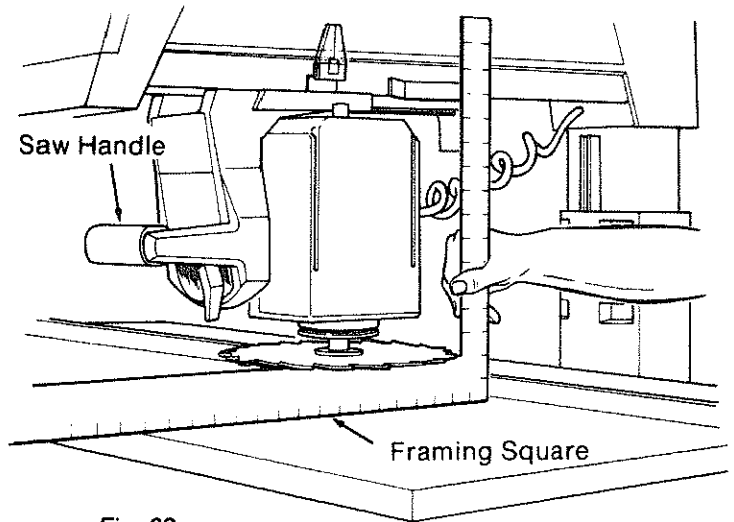

Fig. 69
5. Place the corner of the framing square against the *fence* so that the long edge is on the *table* under the *blade* and the short edge is sticking up in the air. Make sure that the long edge is perpendicular to the *fence*. (Figure 69)